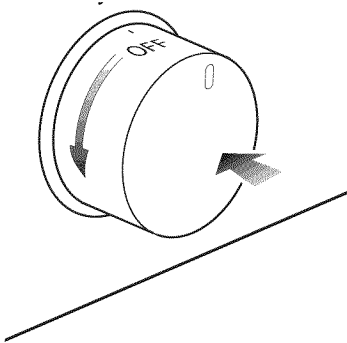

Fig. 2.2
1. Push and turn the dial in an counter-clockwise direction up to the **HI** position (maximum rate), push in and hold the dial until the flame has been lit (fig. 2.2).
2. Push and turn the dial in an counter-clockwise direction up to the **HI** position (maximum rate), push in and hold the dial until the flame has been lit (fig. 2.2).